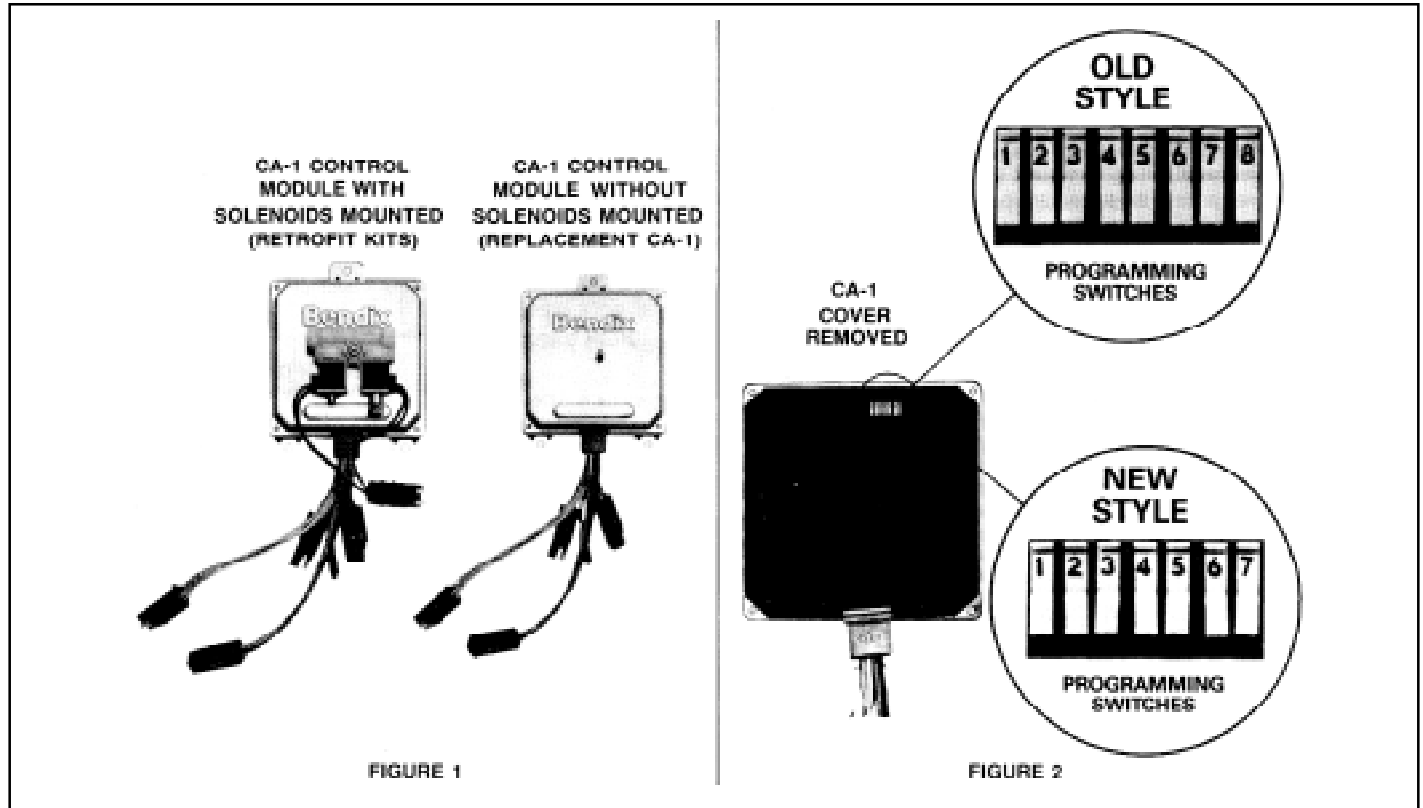

Figure 1
3. Remove the CA-1 cover as instructed in the appropriate section of this manual. (Refer to Figure 1)
- Referring to Figure 1, remove and retain the four screws, nuts and lockwashers that secure the cover to the CA-1 control module.
When the CA-1 Control Module is to be installed as a replacement part, it is supplied without an attached solenoid assembly. (Refer to Figure 1) The programmable CA-1 should be mounted in the same location as the unit that is being replaced. If the CA-1 is mounted to a metal surface on the vehicle, the surface should be thoroughly cleaned to insure a good ground contact between the CA-1 case and the vehicle.
When the programmable CA-1 is part of a retrofit cruise control installation kit, it is supplied with an attached solenoid assembly. (Refer to Figure 1) Installation instructions for the CA-1 are presented in the ENGINE KIT instruction booklet.